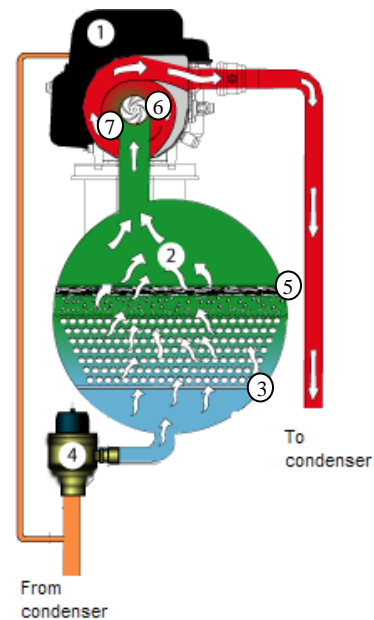

Figure 10: Evaporator Refrigerant Flow
When the chiller is operated in cooling mode, the condensed liquid refrigerant exits the electronic expansion valve (4) Figure 10, and enters the bottom of the flooded evaporator, where it is evenly dispersed along the length of the evaporator by the use of a distributor plate (3). Liquid refrigerant inside the evaporator at low pressure then makes contact with the copper tubes that the building’s water runs through, exchanges heat to the refrigerant, and vaporizes it (2) at the suction pressure of the compressor (1). As a result of the lower density of the vapor and the suction of the compressor, the vaporized refrigerant gas is then drawn to the top of the evaporator through the mist eliminators (5). (Mist eliminators inhibit minute liquid particles entrained in the vaporized refrigerant, from entering the compressor). Passing through the (pre-rotation) inlet guide vanes (6), the vaporized refrigerant then enters the compressor inlet (7), where the angle of incidence of the refrigerant hitting the first stage impeller, is altered, thereby allowing a higher compression efficiency for a given compressor rotor speed.